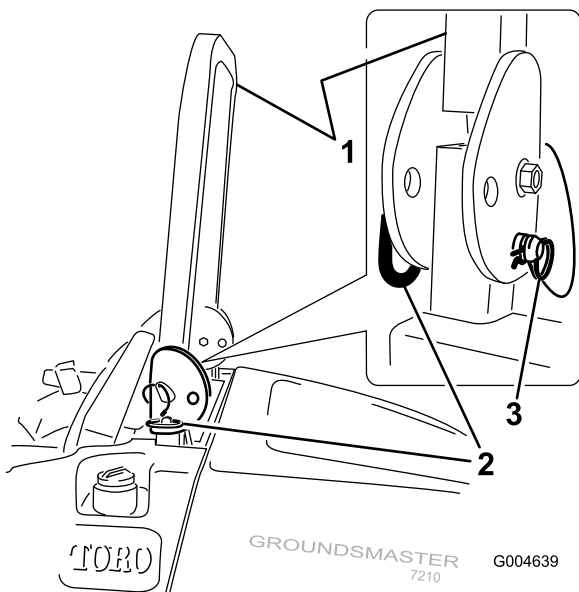

Figure 12
1. To lower the roll bar, remove the hairpin cotters, push the roll bar forward against the springs, and remove the two pins (Figure 12).
3. Install the two pins and secure them with the hairpin coter pins (Figure 12).
4. To raise the roll bar, remove the hairpin coter pins and remove the two pins (Figure 12).
5. Raise the roll bar to the upright position and install the two pins and secure them with the hairpin coter pins (Figure 12).